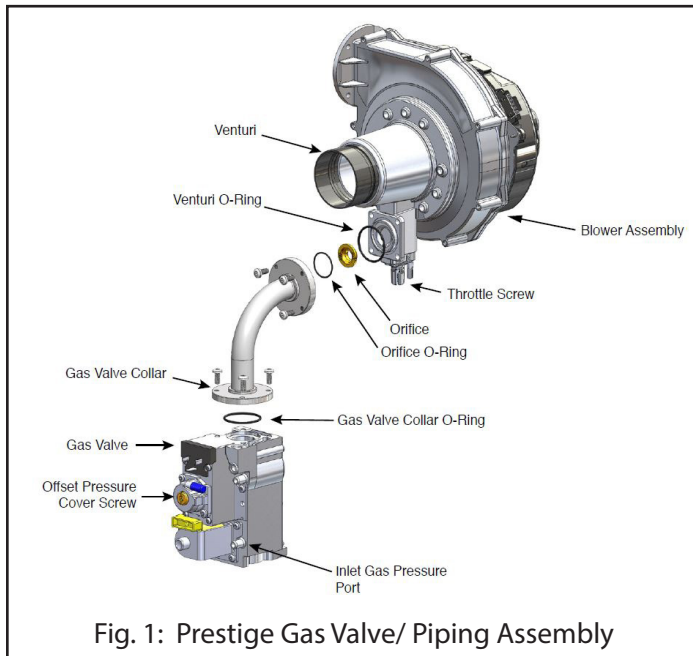

Fig. 1: Prestige Gas Valve/ Piping Assembly
5. Remove the screws/nut securing the gas valve from the gas valve pipe elbow, see Fig. 1. Discard the gas valve gasket as a replacement is included in the kit.